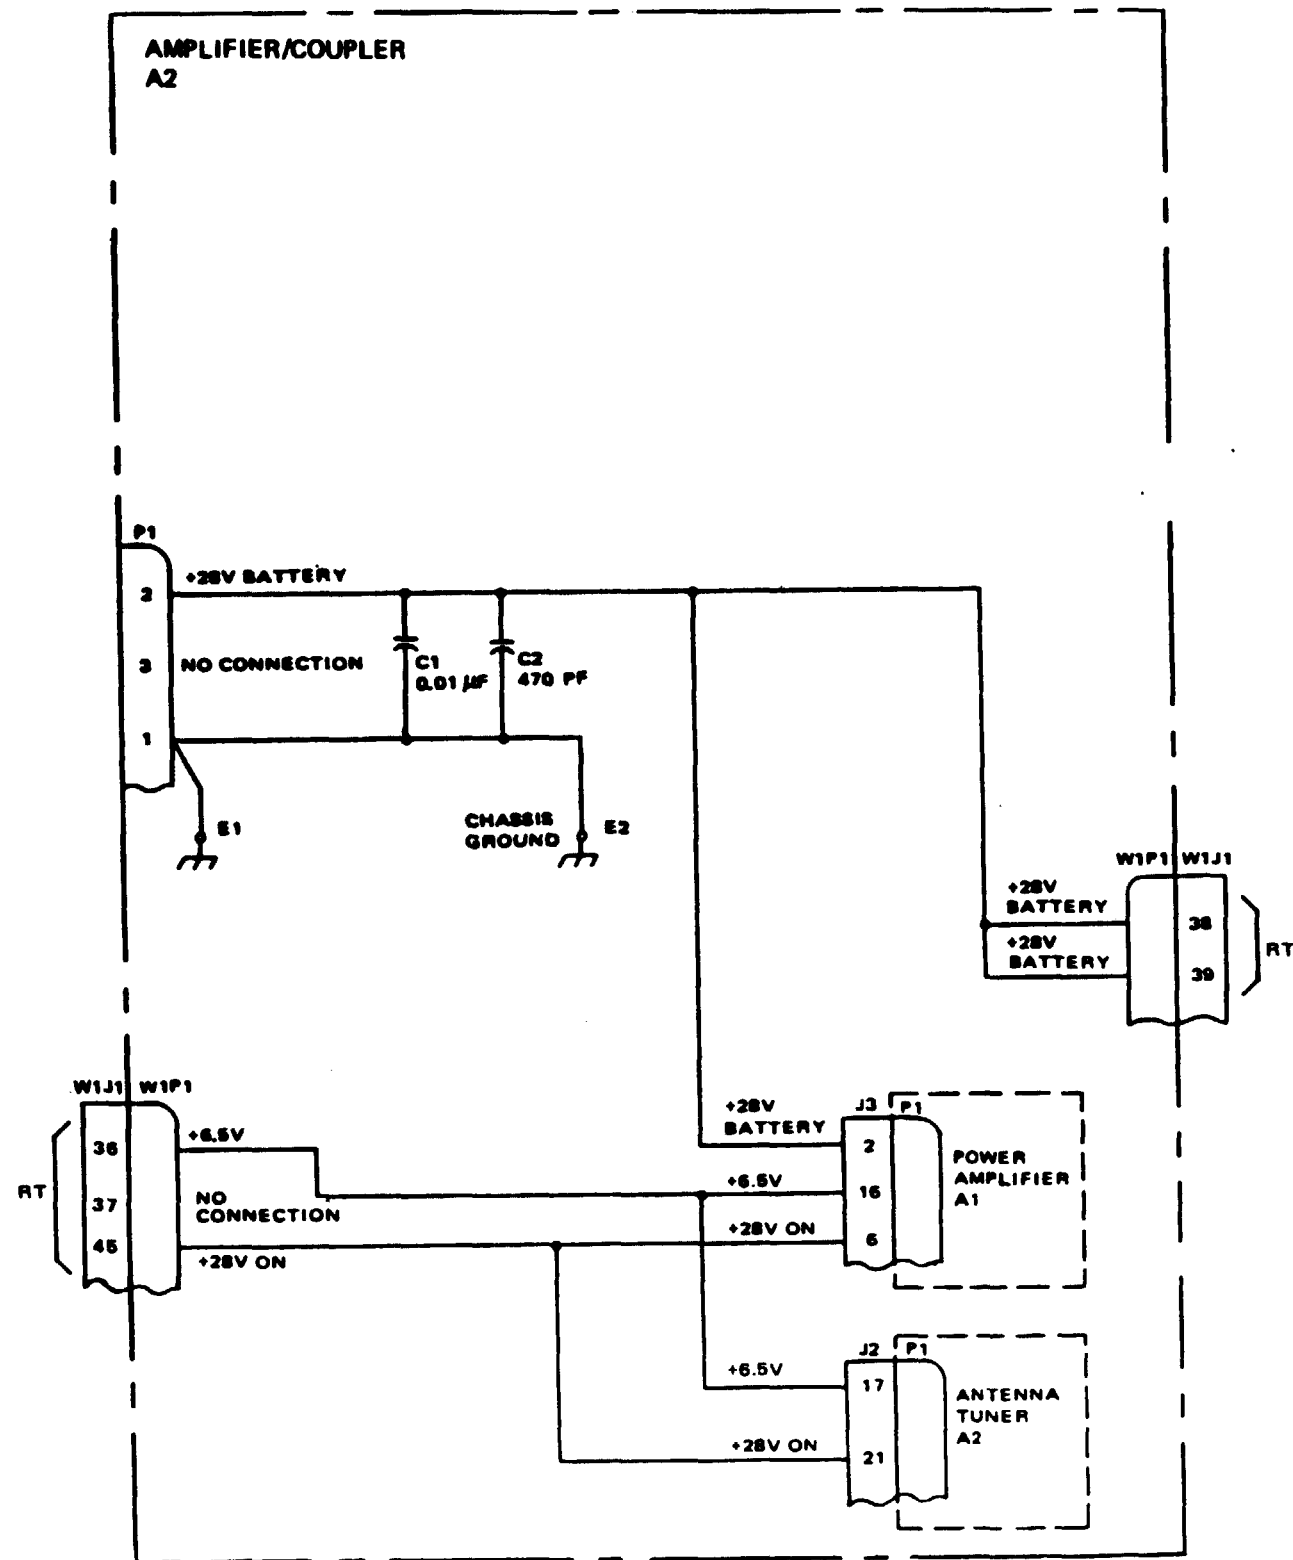

Figure 5-1. Amplifier/Coupler Power Distribution
**AMPLIFIER/COUPLER POWER DISTRIBUTION, fig 5-1**